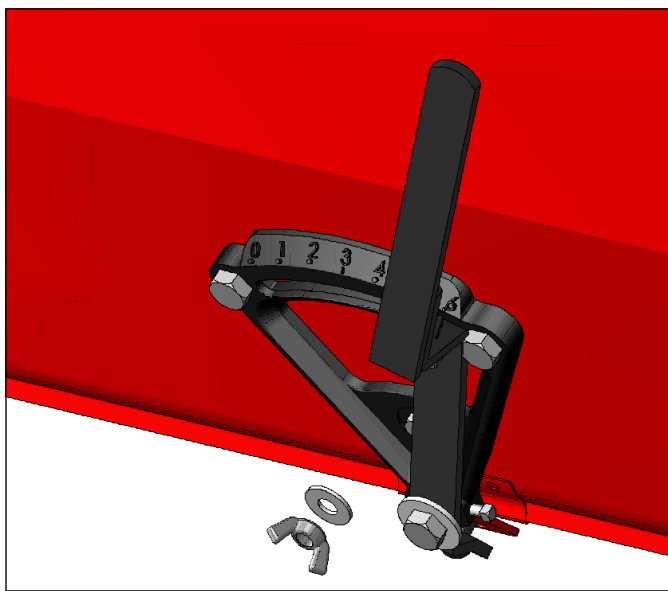

Figure 2-18: Seed Rate Max Adj Rear Agitator (1 of 3)
**Adjusting the Box Slide:** When properly adjusted the holes in the slide should line up with the holes in the box, with the control handle set at "6". To make an adjustment or loosen the control handle on the box, move the slide until the holes line up. When the handle is moved to "0" the holes in the box should be completely covered. If the holes are not covered, loosen the three bolts holding the seedmeter casting and shift it slightly so that the "0" mark is farther from the control handle. Re-tighten the bolts. Move control handle to "0". Holes in the box should then be completely covered. See Figures 2-18, 2-19 and 2-20.